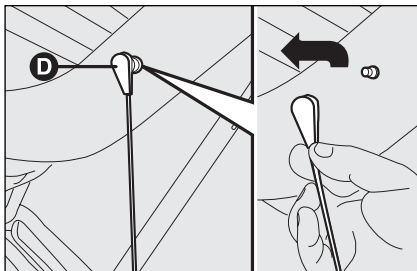

fig. 101
- remove the rear parcel shelf and release the upper ends **D**-fig. 101 of the two tie rods by removing eyelets from the pins and pushing them in arrow direction